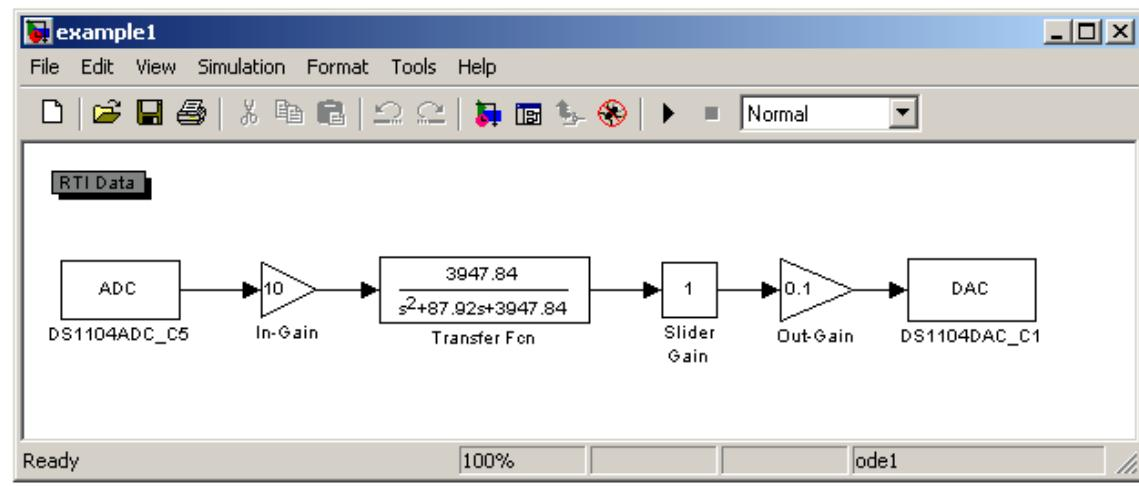

Figure 2.4: Real-Time model for dSPACE in Simulink.
- Drag the **DS1104ADC C5** and **DS1104DAC C1** blocks into the Simulink model and replace the Signal generator and Scope blocks. Place the two gains of 10 and 0.1 on the input and output signals respectively. The model should become similar to the one depicted in Fig. 2.4. You might need to save the model with another name, to preserve the simulation model.